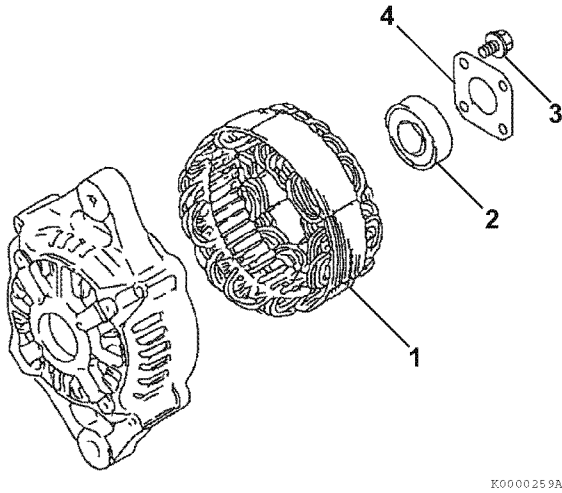

Figure 11-13
- If removed, lubricate the outside diameter of a new front frame housing bearing. Press the bearing (Figure 11-13, (2)) into the front frame housing. Reinstall the plate (Figure 11-13, (4)) to the front housing. Tighten the four bolts (Figure 11-13, (3)).
- Position the stator assembly (Figure 11-13, (1)) on the front frame housing studs.